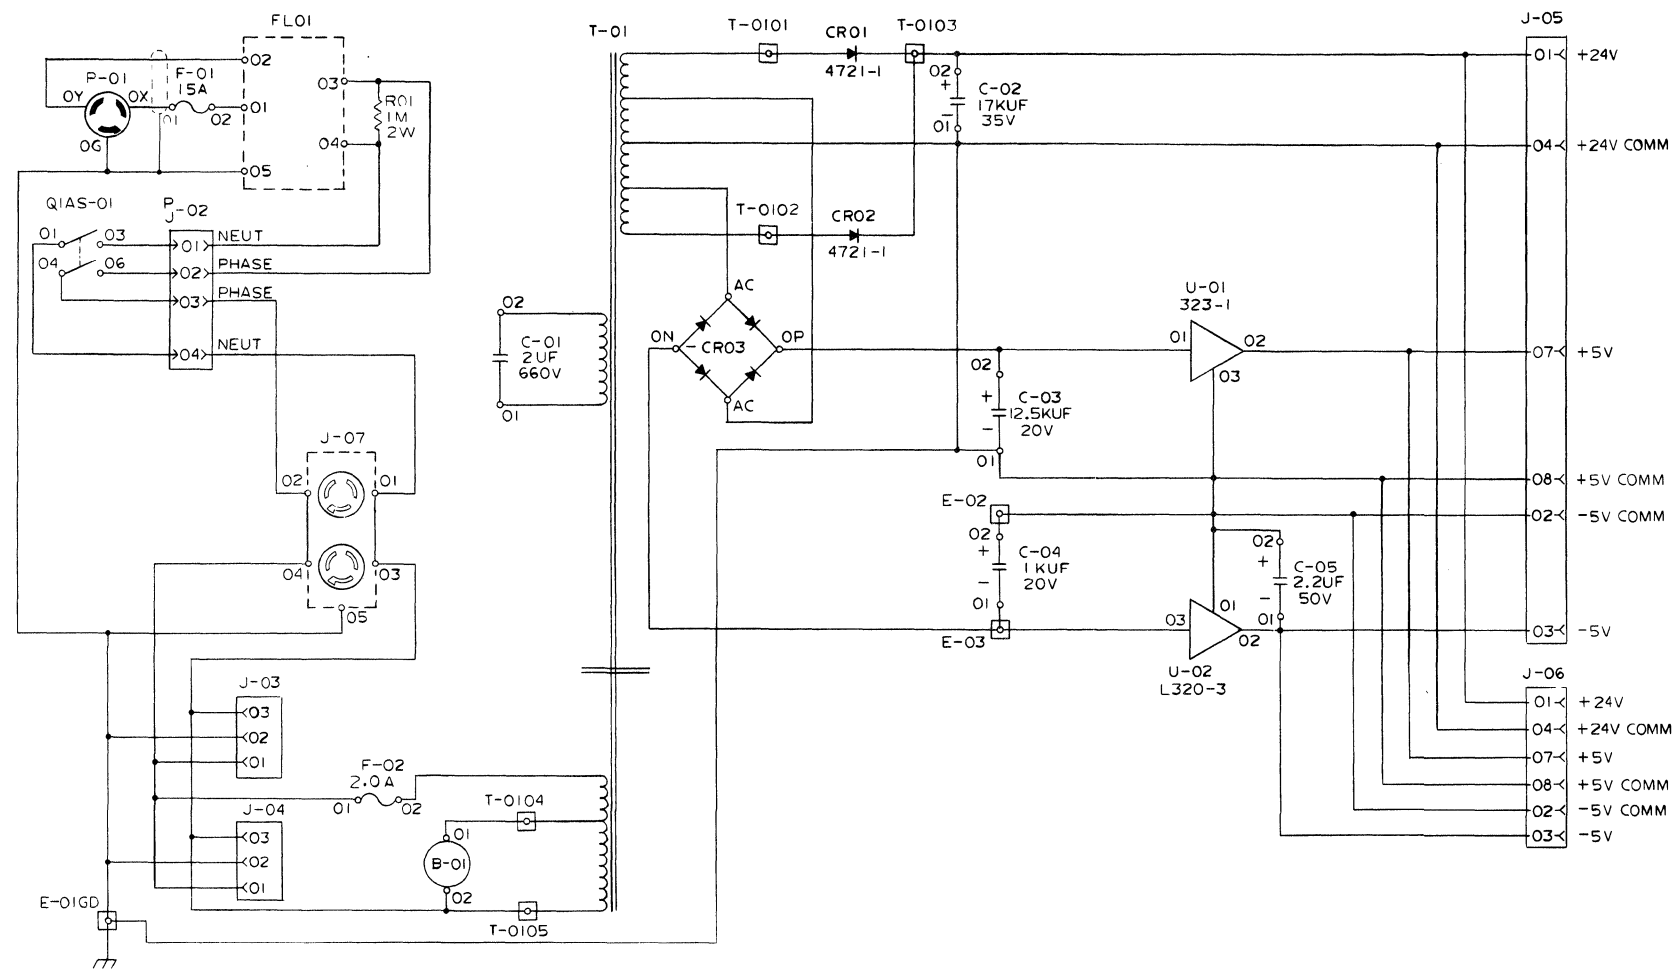

Figure 4-8 Diskette Power Supply Schematic. 220-240V, 50 Hz
- Figure 4-8 Diskette Power Supply Schematic, 220-240V, 50 Hz.